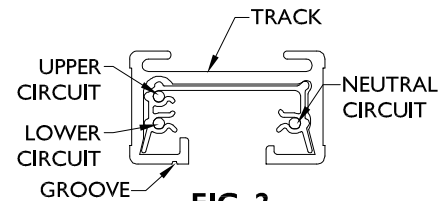

FIG. 2
B. JUNO 2 CIRCUIT TRACK FIG. 2